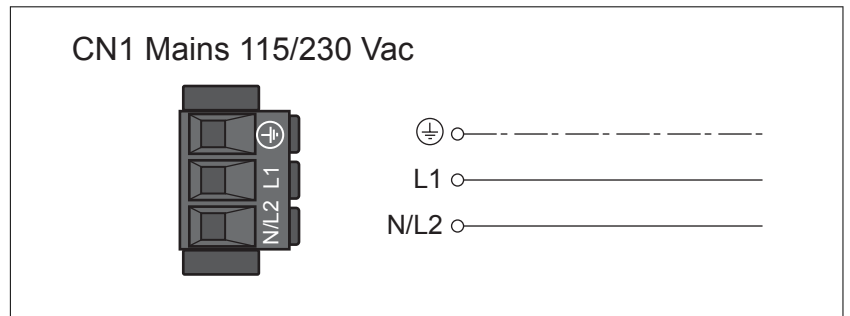

Figure 24: Wiring diagram power stage supply for single-phase device.
- ▶ Connect the mains cable (Figure 24). Note the tightening torque specified for the terminal screws.